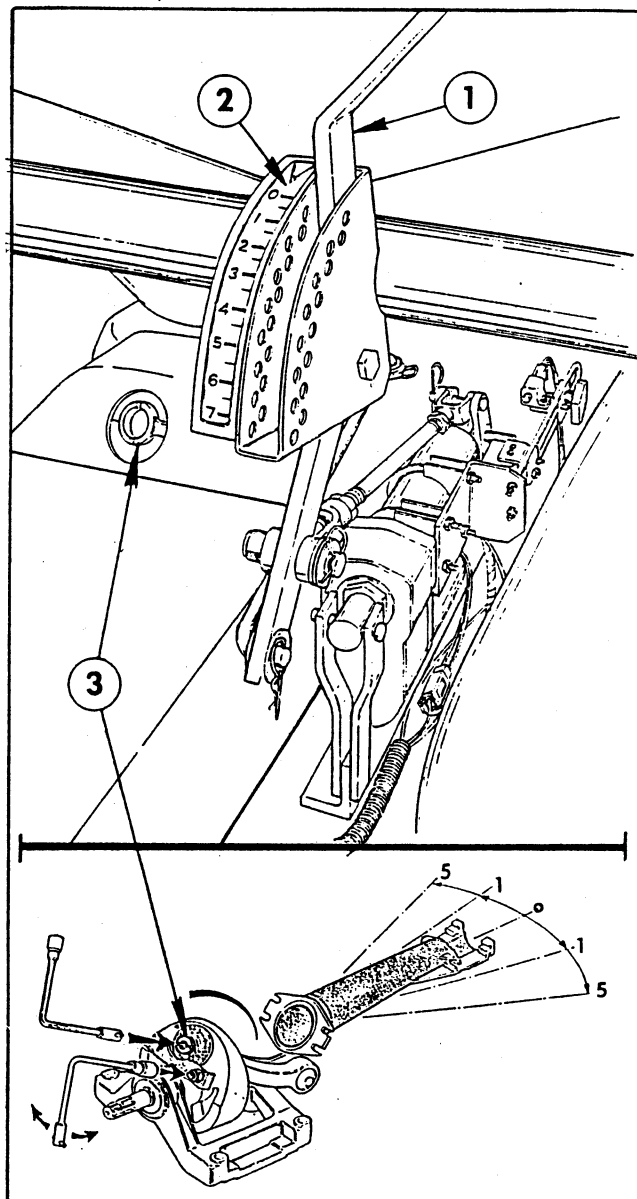

Fig. 5
1. Turn the Spreader Drive Pulley by hand, until the arc adjuster appears in the opening in the Spreader, as shown in FIG. 5.